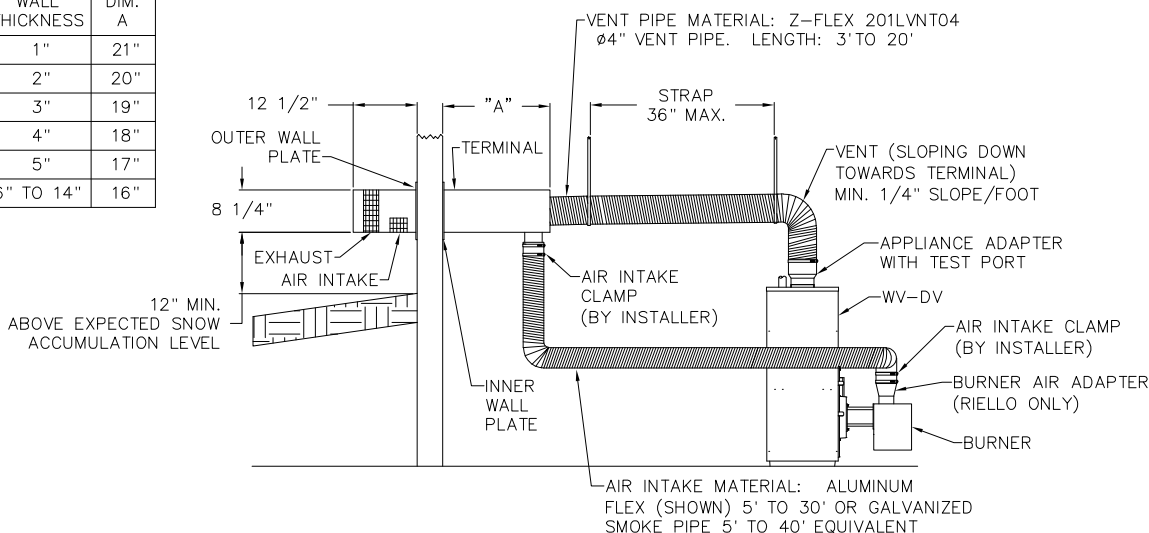

Figure 4.1: Venting
1. Prepare sketches and notes of the layout of the installation. Include boiler location, venting system, existing piping and wiring. Show existing equipment that may interfere with installation of new equipment. See Section 4-A. "Vent System Installation," Page 7, and Figure 4.1.
- a. Vent length must be between 3' and 20' long. See paragraph 4.A.3 and Figure 4.1 for air intake requirements.
- c. Vent terminal extends 12" beyond outside wall surface and at least 16" beyond inside wall surface. See Figure 4.1.
- 3. For air intake, use 4" diameter galvanized smoke pipe or 4" diameter flexible corrugated aluminum pipe. Maximum equivalent length of galvanized smoke pipe is 40'. Allow 5 equivalent feet for each 90° elbow used. (Example: No more than 20' straight smoke pipe can be used with four 90° elbows.) To connect air intake to Riello BF5 burner, use burner air adapter from trim bag to connect 4" air intake to 3" opening on top of burner. See Figure 4.1.